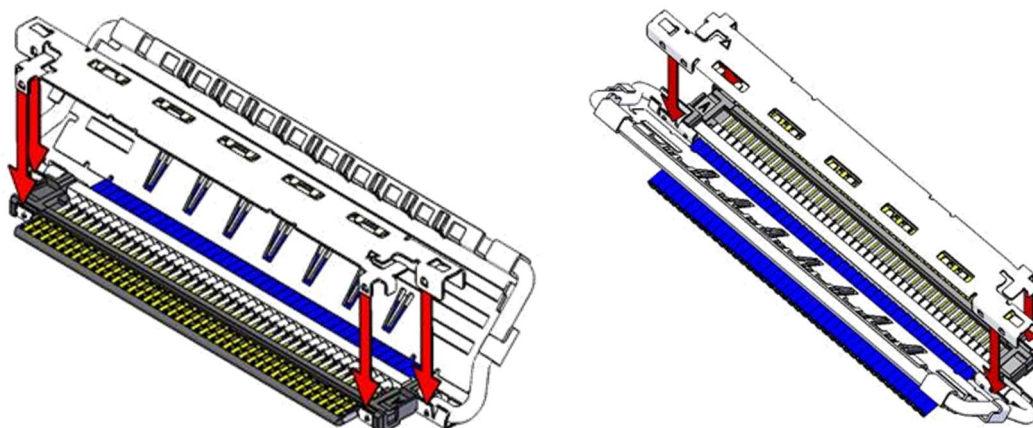

Fig.8 Assembly of Shell-A
- ② As shown in Figure 8, shell-A is assembled from the upper side of housing assembly.